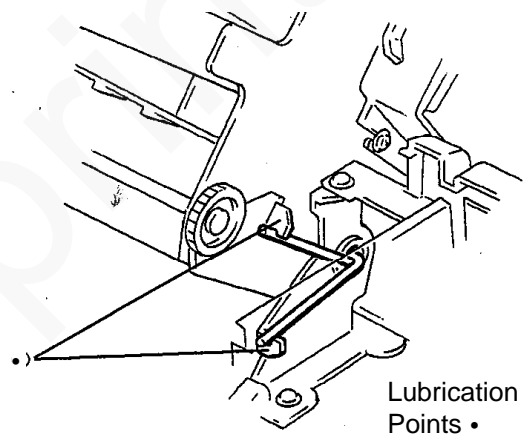

Figure 2. Chassis springs
7. Lubricate the chassis springs with conductive grease, P/N 070E00110 (Figure 2).